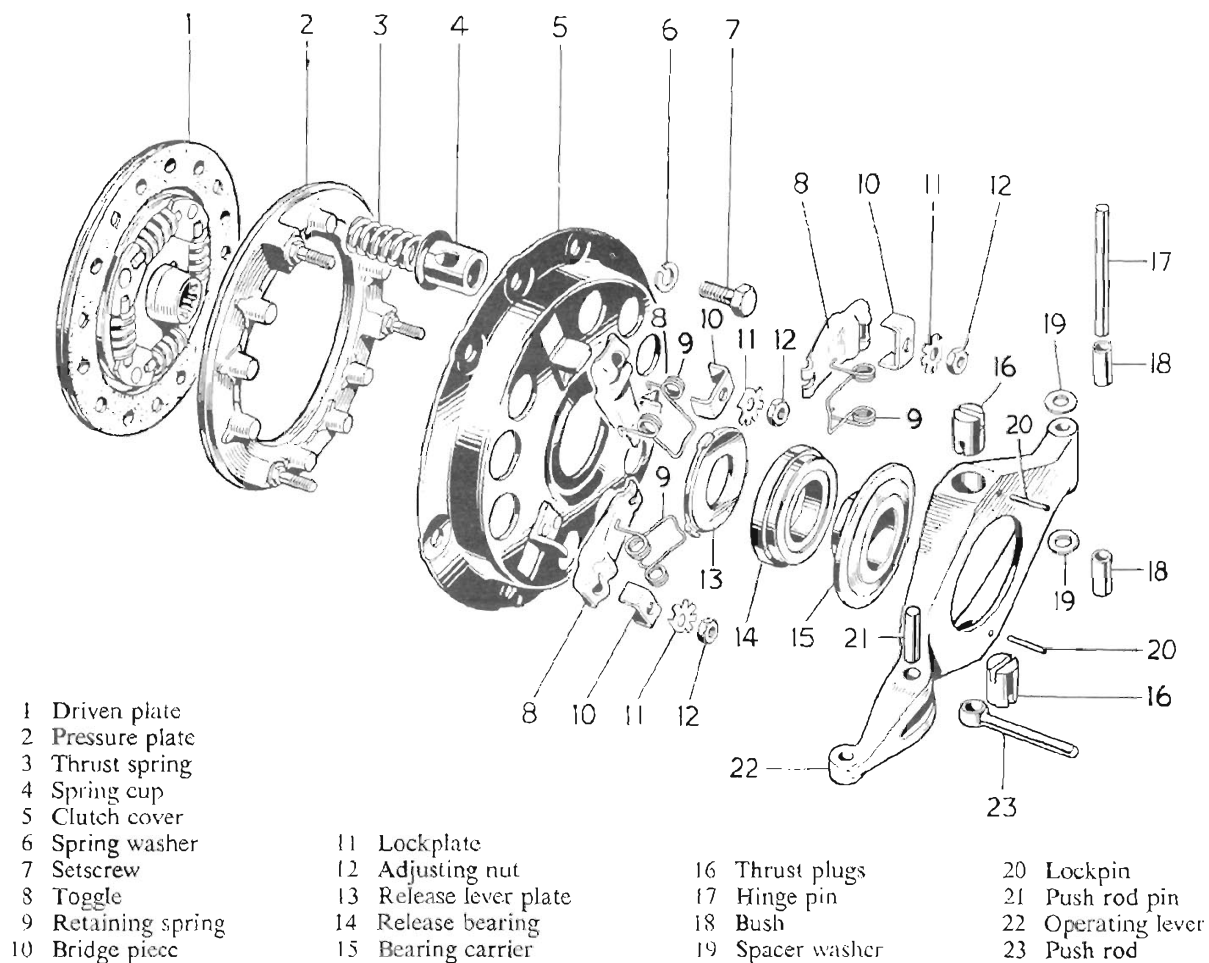

Fig. 13. Exploded clutch unit (Herald 1200, 12/50 and Spitfire)
1. Position the spacers (6) on the baseplate and place the clutch unit over the spacers, with the release levers as near as possible over the spacers.
2. Mark the pressure plate, cover and toggles to facilitate re-assembling them to their original positions. Fit the operating handle (8) to the baseplate, and clamp the clutch unit by levering the handle. Secure the unit to the baseplate with six setscrews (7). Remove the operating handle.
3. Referring to Fig. 13, hold the release lever plate (13) down and detach the retaining springs (9). Remove the release lever plate.
(a) HERALD 1200, 12/50 AND SPITFIRE (Fig. 13)